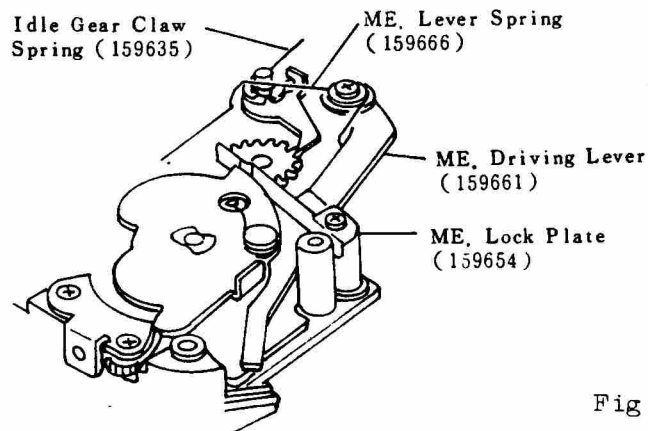

Fig 35
- p) Set the ME. Driving Lever (159661) and ME. Driving Lever Metal (139662) with ME. Lever Spring (159666) and tighten the ME. Driving Lever Set Screw (61925026). Hook the ME. Lever Spring with ME. Driving Lever and post of W. Base Plate as shown in (Fig 35).